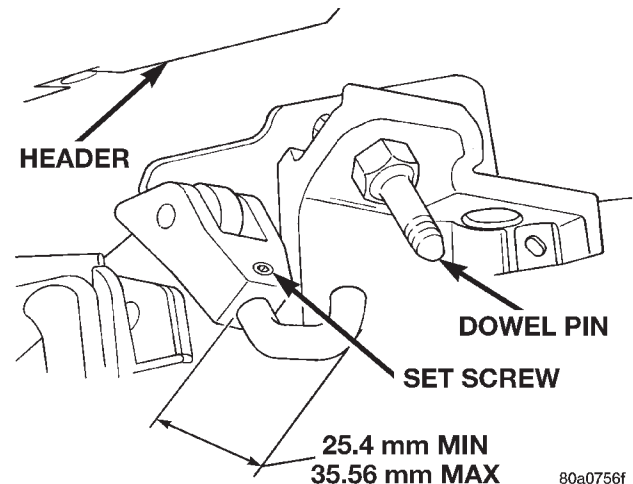

Fig. 8 Roof Latch and Guide Dowel Pin
- (1) Loosen dowel pins (Fig. 8).
- (2) Position dowel pins to the center of the receiver holes in the windshield header.
- (3) Tighten dowel pins and verify adjustment.
If the convertible top latching effort is excessive, it can be reduced by lengthening the latch hook (Fig. 8). The top header weatherstrip requires enough compression to prevent air and water leaks. Adjust latch hook to achieve reasonable latching effort and proper sealing.